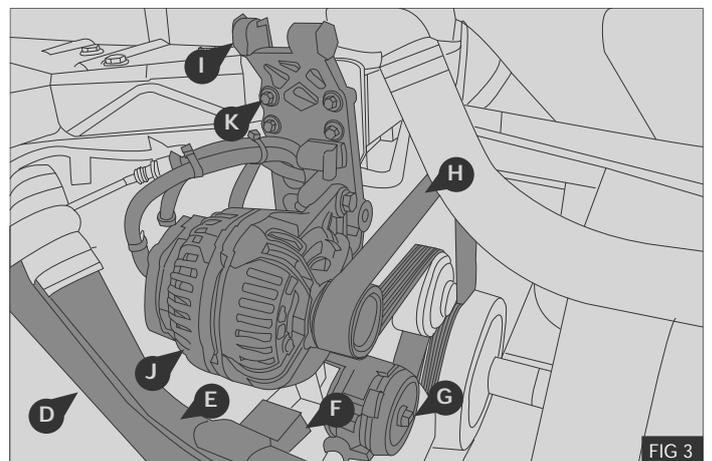

FIG 3
5. Remove and retain the engine side panel **D** secured by 2 x M8 bolts - Fig.3
6. Remove and retain the intercooler pipe **E** secured by 2 x jubilee clips and 1 x M8 nut - Fig.3
7. Remove and retain the intercooler support bracket **F** secured by 2 x M8 bolts - Fig.3
8. Rotate the automatic belt tensioner **G** using a 1/2" drive bar and remove the original drive belt **H** - Fig.3
9. Remove and retain the automatic belt tensioner **G** from the bracket **I** - Fig.3
10. Remove the wiring loom from the alternator **J** - Fig.3
11. Remove and retain the bolts M10 x 110 and M10 x 45, securing the alternator **J** to the bracket **I** - Fig.3
12. Remove and retain the alternator **J** - Fig.3
13. Remove and retain the 4 off M8 x 50 bolts **K** securing the top of the bracket **I** - Fig.3
1. Refit the inter cooler support bracket ⑥ and secure by 2 x M8 bolts - Fig.3
2. Refit the intercooler pipe ⑦ and secure by 2 x jubilee clips and 1 x M8 nut - Fig.3
3. Refit the engine side panel ⑧ and secure by 2 x M8 bolts - Fig.3